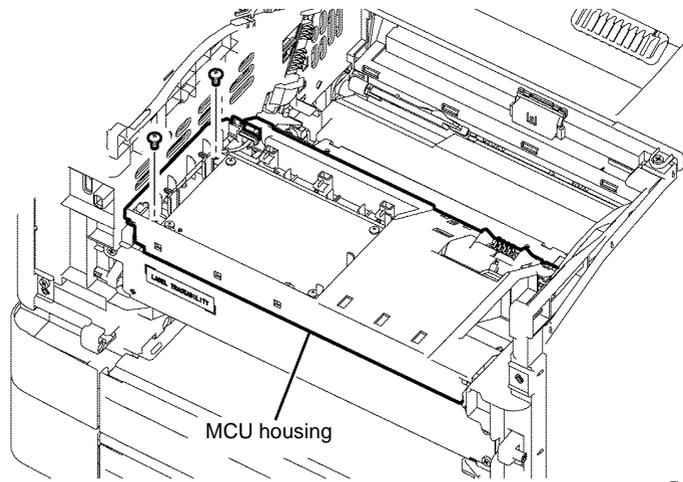

Figure 2 MCU housing screw removal
12. Remove two screws (silver, M3, 6mm) that fix the MCU housing, Figure 2.